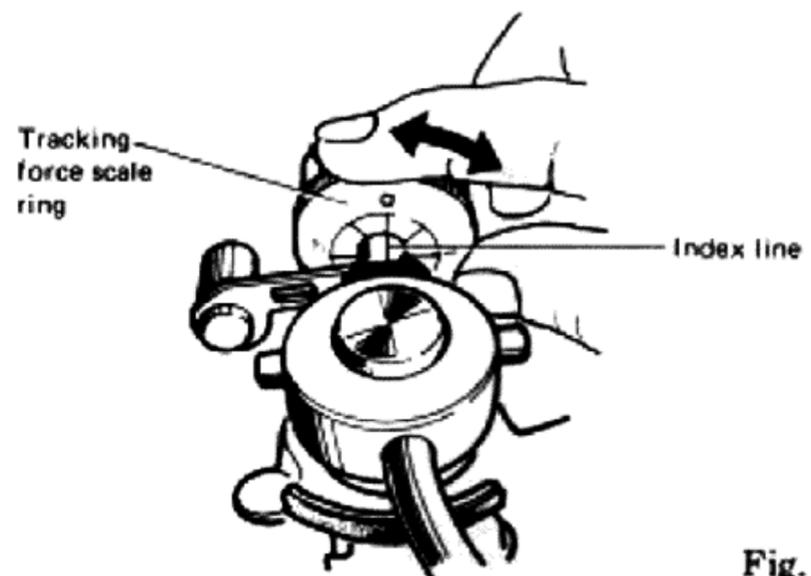

Fig. 8
8. Since the tracking force is zero when the tonearm is balanced level, turn just the tracking force scale ring in front of the counterweight, and set the "0" on the scale to the index line on the shaft (Fig. 8).